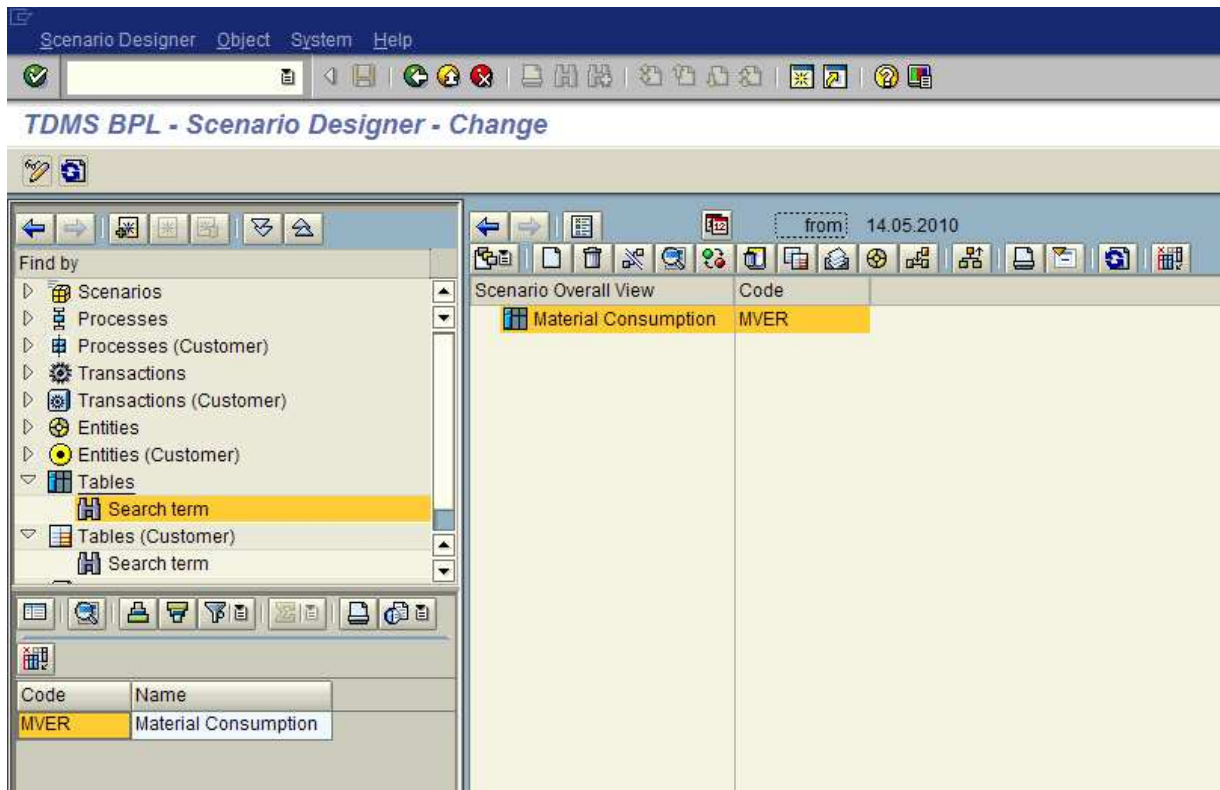

Figure 9: Double-clicking table MVER in search result area, the table is displayed in overview area
- Double-clicking table MVER in search result area, the table is displayed in overview area (see Figure 9). Here, you can view and edit the table's properties (For example, double-clicking the table in overview area you can edit the copy control settings). Your changes apply in the data model's tree structure. With table MVER marked, clicking the *Goto* icon  you can change from the *scenario overall view* to the *where-used list* to get an overview where the table is located in the tree structure (for more details, see chapter Scenario Overall View and Where-Used List).